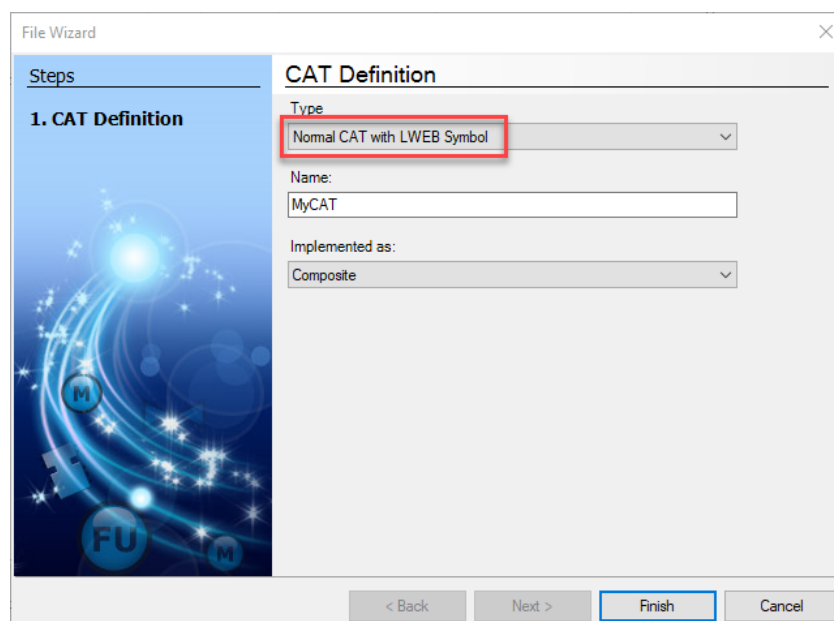

Figure 57: Create a 61499 CAT to embed the 61131 program.
- To embed the program block into the 61499 runtime, create a normal CAT: In the 'KickStart' solution tree, select **CAT** → **Application**. Then right-click and choose **New Item**. Select **Normal CAT** and type in a name. Then click **Finish** as shown in Figure 57.